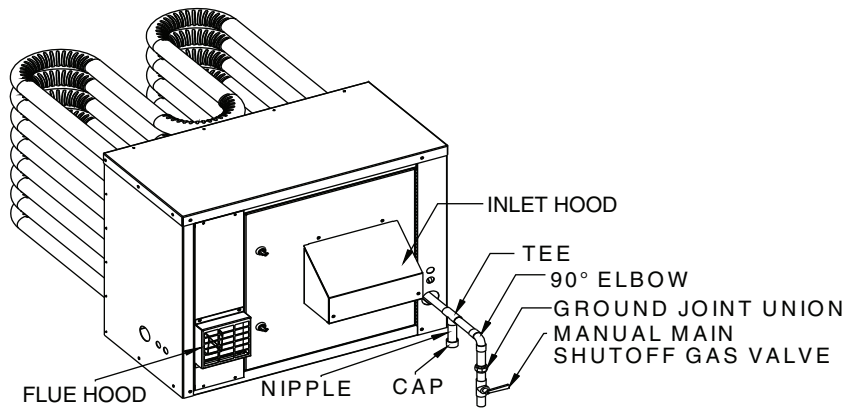

Fig. 13 — Gas Heat Section (Gas Heat Units Only)
Step 5 — Install Flue Hood and Inlet Hood (Gas Heat Units Only) — Flue hood (smaller hood), inlet hood (larger hood), and screens are shipped inside the unit in the gas section. To install, open the heat section door. The flue hood is attached to the heat section panel from the outside using the screws provided. See Fig. 13.
Gas piping length and capacity is shown in Table 4. See Fig. 13 for typical pipe guide and locations of external manual gas shutoff valve.
Install field-supplied manual gas shutoff valve with a 1/8-in. NPT pressure tap for test gage connection at unit. The pressure tap is located on the gas manifold, adjacent to the gas valve. Field gas piping must include sediment trap and union. See Fig. 13. Install a field-supplied gas regulator.